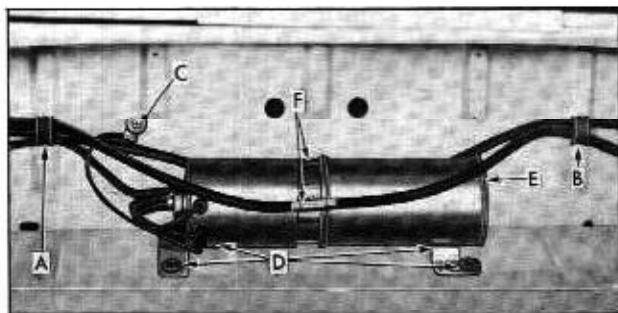

Fig. 17-148 Hydro-Lectric Motor and Pump Assembly
The hydraulic unit which is used in the Convertible bodies, consists of a 12-volt reversible type motor, a rotor-type pump, two hydraulic lift cylinders and an upper and lower hydraulic hose assembly. The unit is installed in the body directly behind rear seat back. (Fig. 17-148)
6. Remove clips "A" and "B", Fig. 17-148, securing wire harness and hydraulic hose to rear seat back panel.
7. Disconnect motor leads from wire harness and ground attaching screw "C", Fig. 17-148.
10. With a screwdriver, vent reservoir by removing filler plug indicated at "E", Fig. 17-148, then reinstall plug.
11. Disconnect hydraulic lines at "F", Fig. 17-148 and cap open fittings to prevent leakage of fluid. Use a cloth to absorb any leaking fluid, then remove unit from rear compartment.
1. Check connection of motor ground wire to body metal. ("C", Fig. 17-148)